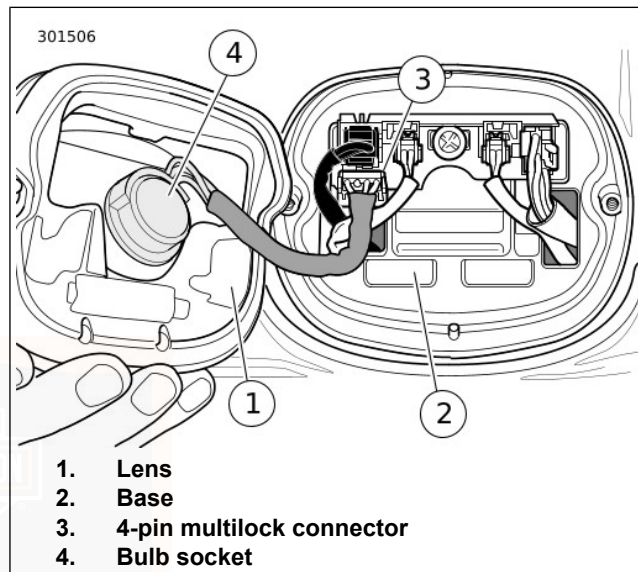

Figure 67. Tail Lamp Assembly
2. See Figure 67. Disconnect tail lamp connector (3).
3. Rotate bulb socket (4) 1/4 turn counterclockwise and remove from tail lamp assembly. Pull bulb from socket.
2. Insert socket (4) into tail lamp assembly and rotate 1/4 turn clockwise.
3. See Figure 67. Connect tail lamp connector (3).